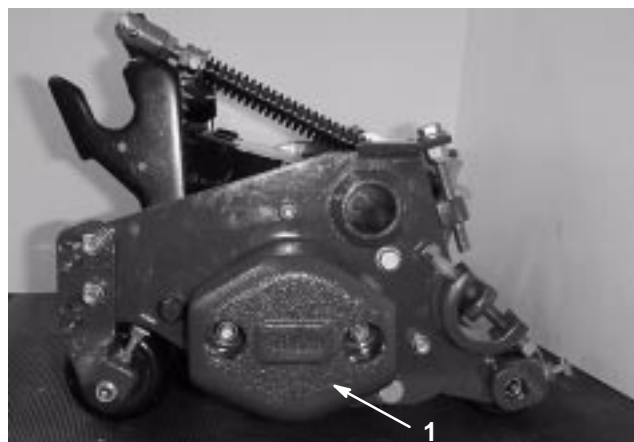

Figure 18
- A. Remove the mounting nuts from the counterbalance end weight (Fig. 18).
2. Remove the counterbalance weight (Fig. 18).